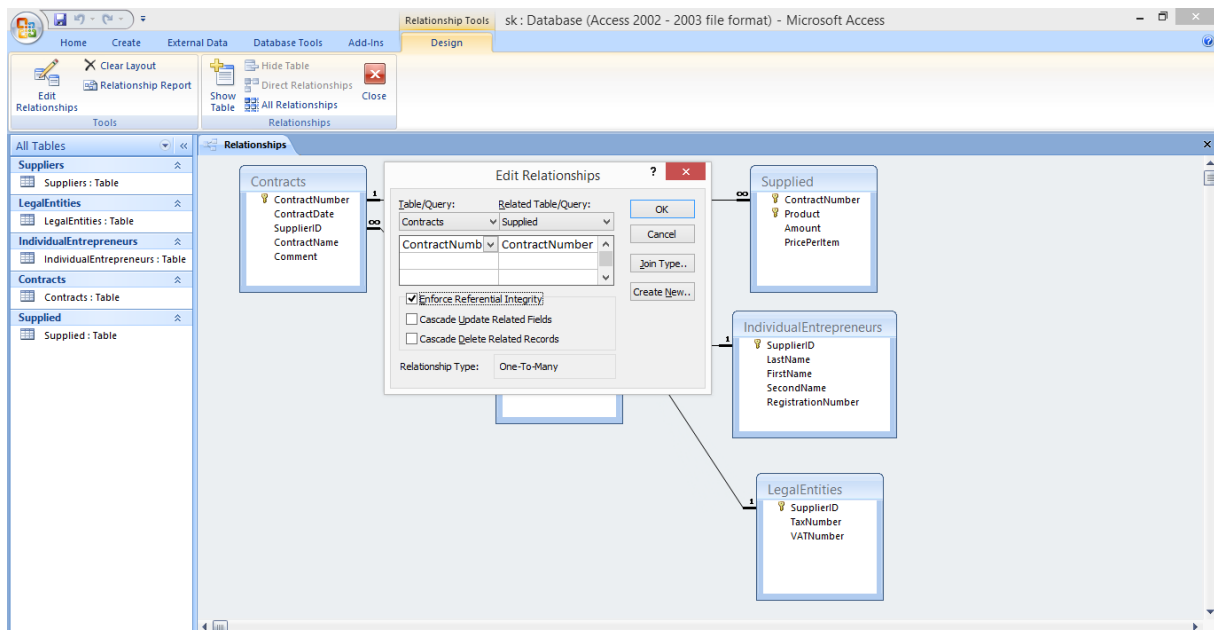

Figure 1.4
- 7) Double click on each relationship between database tables and check “Enforce Referential Integrity” (figure 1.4);